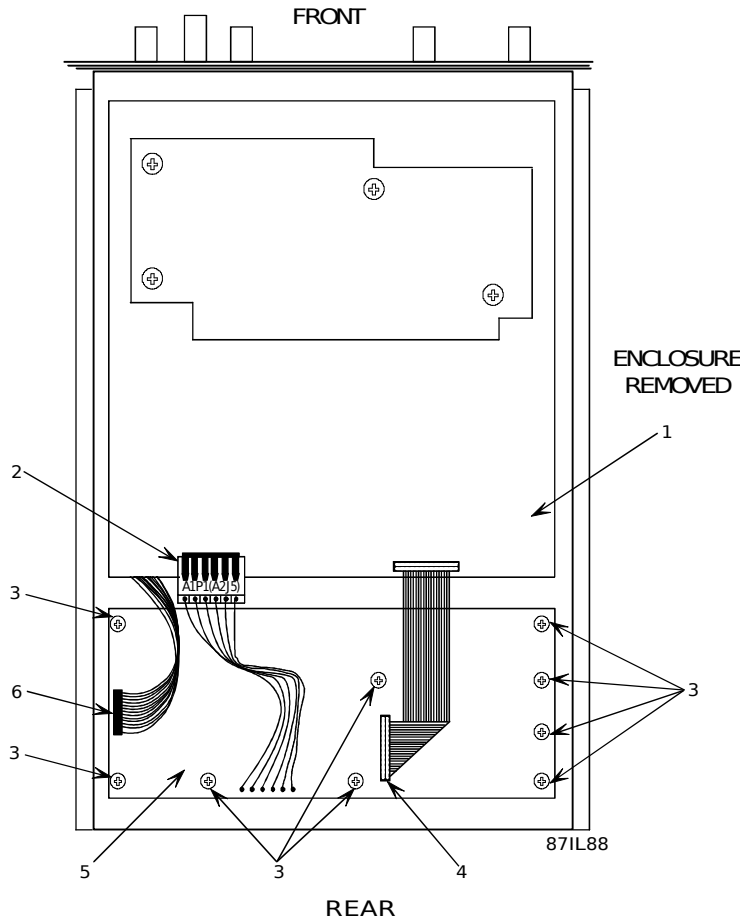

Figure 7-9. DC/DC Power Supply PC Assembly (A1) Remove and Replace Procedures
2. Refer to **Figure 7-9**.
3. Remove plug A1P1 (2) from connector A2J5 on the Digital Control PC Assembly (1).
4. Remove plug P1 (6) from connector A1J1 on the DC/DC Power Supply PC Assembly (5).
5. Remove plug W1P2 (4) from connector A1J2 on the DC/DC Power Supply PC Assembly (5).
6. Remove ten screws (3) from the DC/DC/ Power Supply PC Assembly (5) and lift the DC/DC Power Supply PC Assembly (5) from the unit.
1. Refer to **Figure 7-9**.
2. Attach the DC/DC Power Supply PC Assembly (5) to the receiver chassis using ten screws (3).
3. Connect plug W1P2 (4) to connector A1J2 on the DC/DC Power Supply PC Assembly (5).
4. Connect plug P1 (6) to connector A1J1 on the DC/DC Power Supply PC Assembly (5).
5. Connect plug A1P1 (2) to connector A2J5 on the Digital Control Assembly (1).